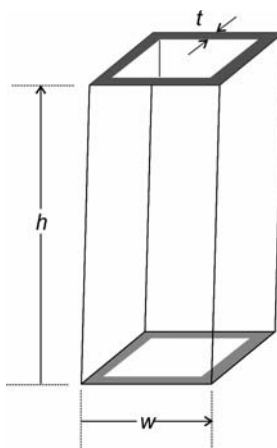

Fig. 8 The dimensions of the metal tube.
1. Set up a formula for V using the symbols in **figure 8** for the indicated dimensions of the tube.